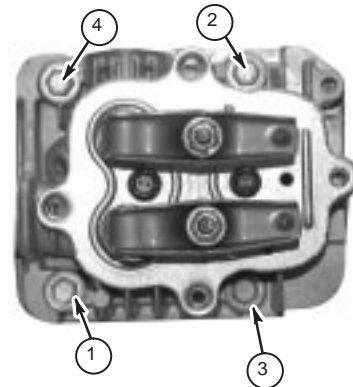

Fig. 57 – Torque Pattern, Cylinder Heads
3. Torque screws as listed in Table No. 3, Page 32 in sequence that cylinder head screws are numbered on cylinder head, or as shown in Fig. 57.
Torque screws evenly per number sequence in Fig. 57.